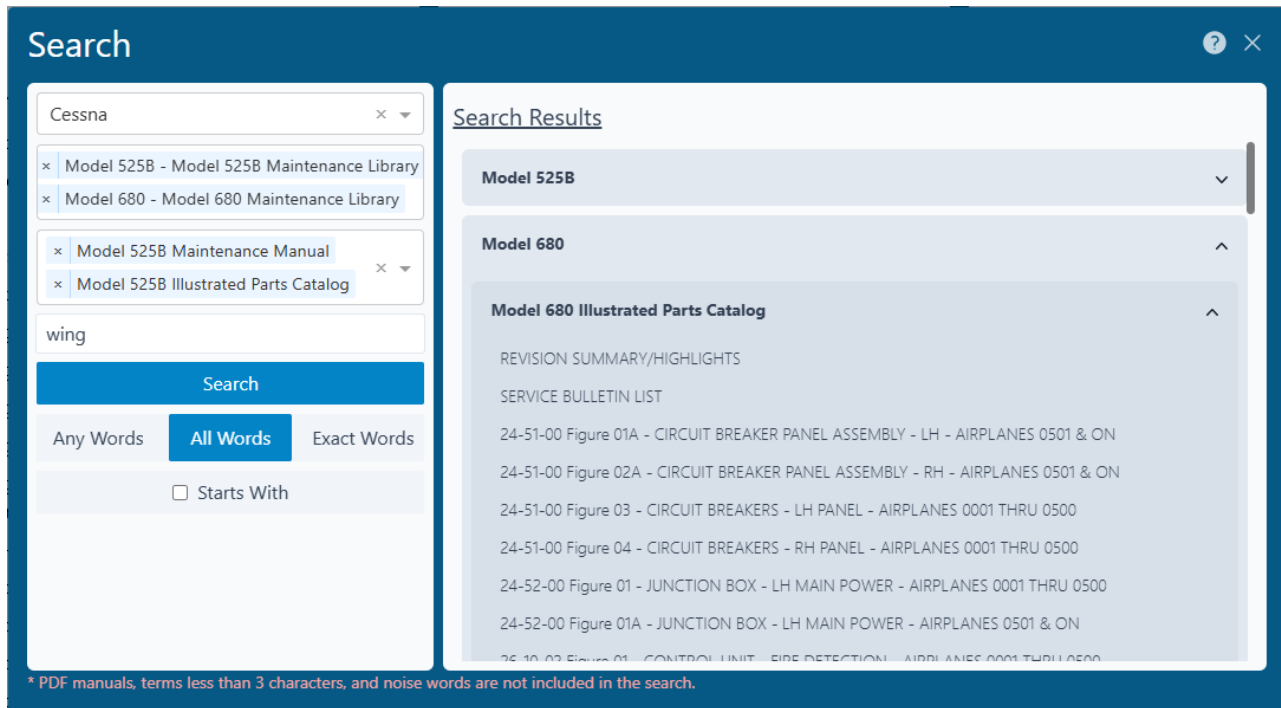

Figure 10 - 1View Search Window
2. When you click in *Search Libraries*, the Search Window Overlay will automatically open over the homepage or the document viewer (Refer to Figure 10).